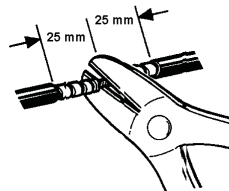

Figure 4
- Then cut the cable in the centre with side-cutting pliers (Figure 4).